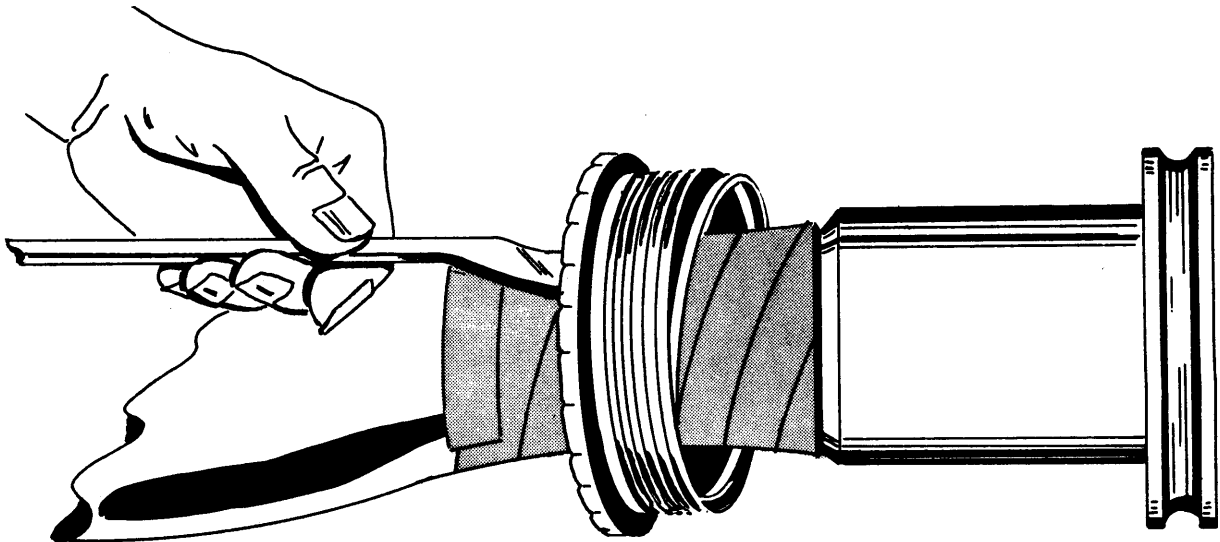

Figure 4. Removing Blade Race
- c. Lift the blade retention nut (30) and remove the 31 balls from the thrust bearing race.
- d. Shake the blade retention nut up and down to drop the outboard thrust bearing race from within the blade retention nut. If the outboard race does not fall, wrap tape around the blade shank and lift the retention nut above the steel retainer. Hold the nut in this position, slip a flat curved blunt end tool between the blade and retention nut and tap lightly, rotating the nut while tapping (figure 4).